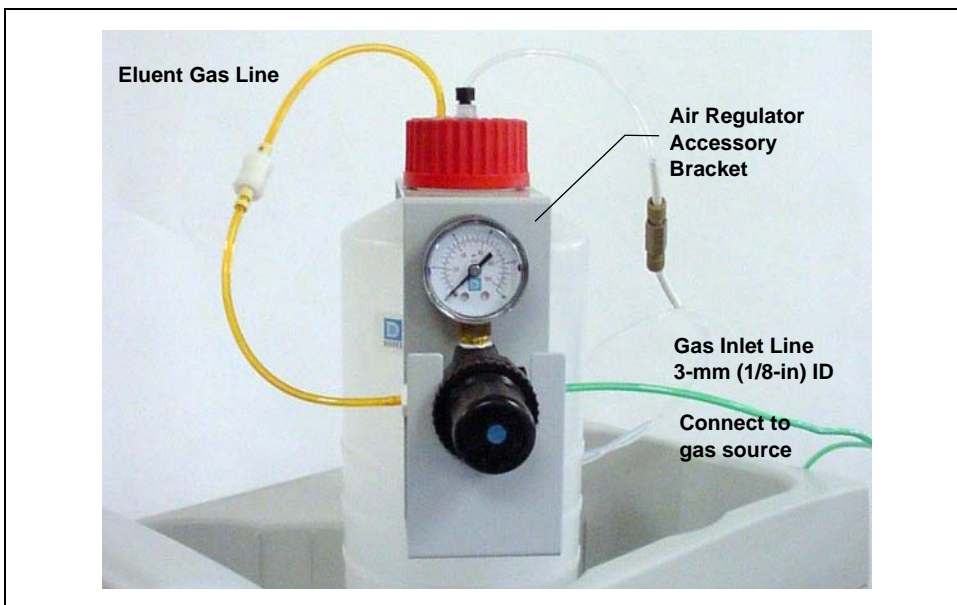

Figure B-46. ICS-1000 Pressurized Eluent Reservoir Connections (Optional)
3. Push the other end of the tubing onto the inlet of the air regulator (see Figure B-46).
6. Slip the air regulator accessory bracket over the neck of the eluent reservoir (see Figure B-46).